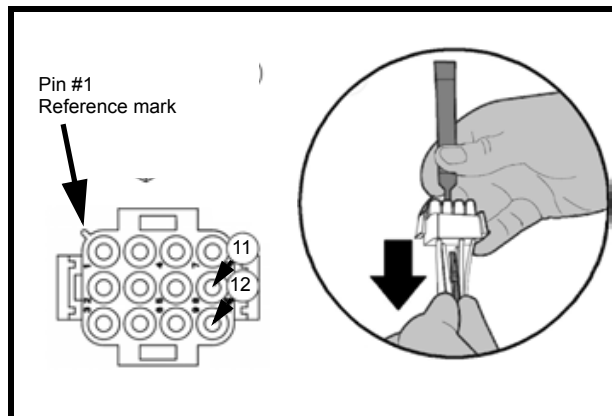

Fig. 40
- 3) With an extracting tool (#005.00374), remove the two vertical motor wires from the main connector, position numbers 11 and 12 (see Fig. 40).